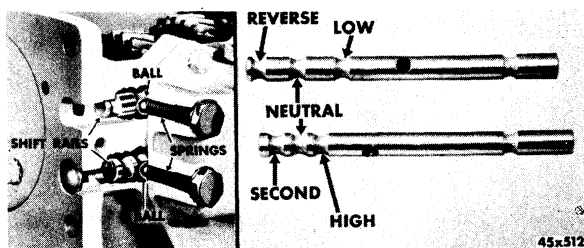

Fig. 10—Shifter Rails Identification
e. Shifter Rails and Forks (Fig. 10)